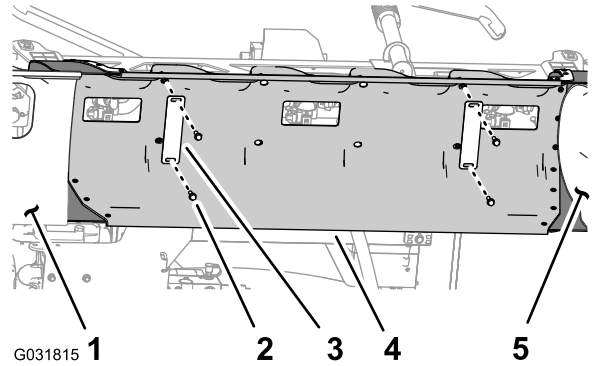

Figure 33
1. While supporting the center-section cover (11-nozzle), remove the 4 flange-head bolts (5/16 x 1-1/4 inches) and 2 cover straps that secure the cover to the cover-support bracket (Figure 33).